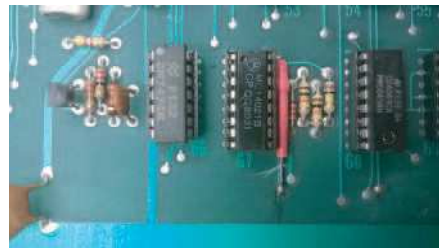

Figure 3
2. Solder a 10 OHM resistor from U67 Pin16 to the through hole solder point below the trace cut as shown in figure 3.